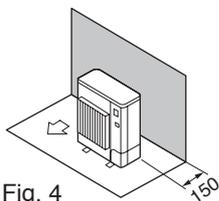

Fig. 4
- (1) Obstacles at rear only (Fig. 4)
### • Top View (Fig. 4)